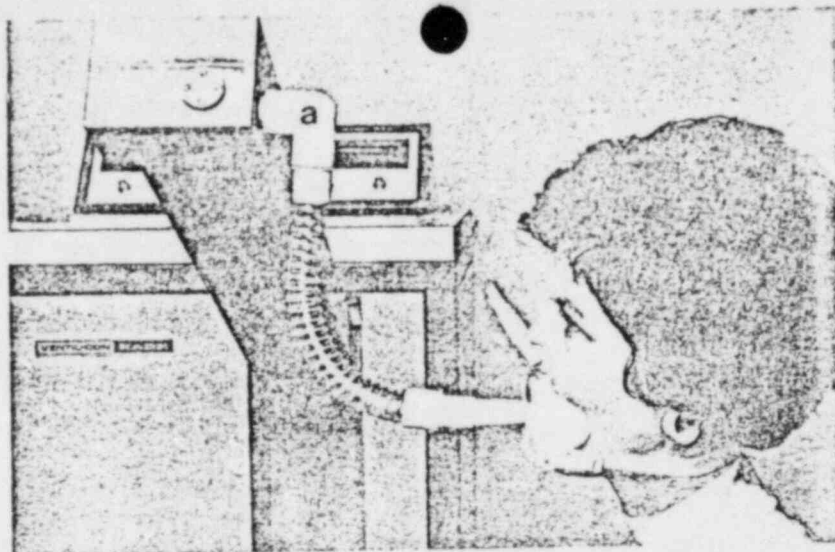

Figure 13. Patient in position for multiple views with swivel adapter. Patient may rotate  $360^\circ$  under the delivery arm without breaking closed loop.
Multiple view lung ventilation studies in the equilibrium phase are as important as multiple view lung perfusion studies. The Ventil-Con is equipped with swivel adapter which allows patient movement without breaking the closed loop in the "Xenon Rebreathing" position. Use of the swivel requires that the patient be in a sitting position for imaging. (See Figure 13.)
6.1.11 Allow the patient to breathe until the lungs reach equilibrium. Reaching equilibrium should require about 3-5 minutes in normal subjects. If multiple views are desired, the swivel adapter should be employed and the patient positioned as in Figure 13.